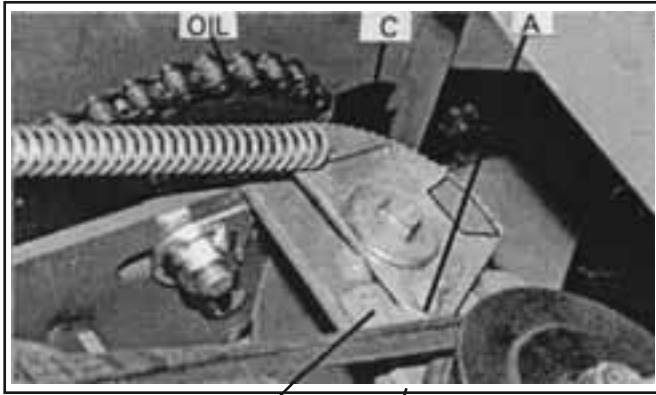

Fig. 26
4. Ensure that the peg on rack assembly (A) engages in the front slot of cam plate assembly. (B) *Fig. 26*
6. Draw the spring plate back into position and secure. Check that the spring finger (C) engages in the first couple of teeth on the rack assembly. *Fig. 26*
After a period of time the drive belt will stretch past the limit of the auto-tensioner. The auto-tensioner can be reset to allow for this stretching by following the above instructions- steps (7) to (11). Re-grease the bearing area under cam plate when fitting new belt. *Fig. 26*